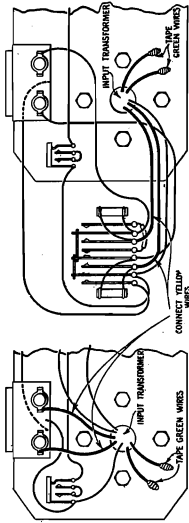

Figure 4—Wiring changes for two microphone operation
- (b) Connect the two yellow transformer leads (500 ohms) to the microphone receptacle. See Figure 4.
- (b) Connect the two yellow transformer leads (500 ohms) to the microphone selector switch at the points from which the two green leads were removed. See Figure 4.